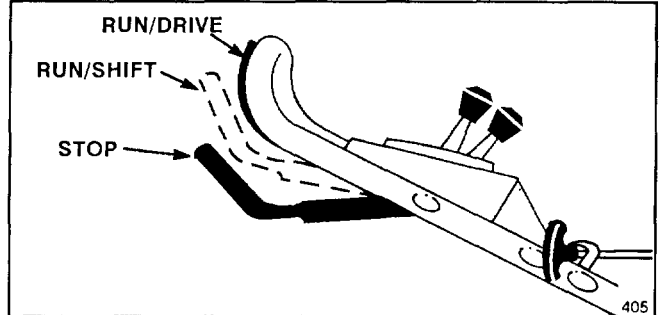

Figure 6
6. Squeeze control bar against handle in the RUN/DRIVE position (Fig. 6).
9. Move control bar to RUN/SHIFT position (Fig. 6).
12. STOPPING (Fig. 6) – Release control bar to stop blade, engine, and traction drive. Move ground speed control to **N**. Pull wire off spark plug if mower will be unattended or not used.